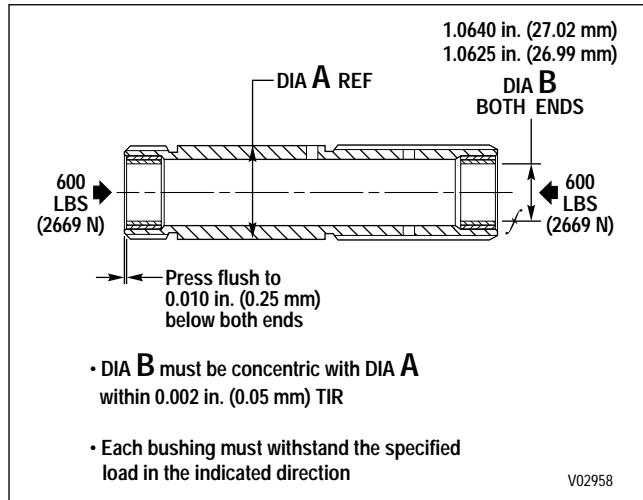

Figure 6-53. Sun Gear Shaft and Bushings
(3) If bushings 2 were removed from sun gear shaft 3, install new bushings, following the specifications in Figure 6-53. Bushing installer tool J 23614-A (for models without lockup) or J 39737 (for models with lockup) can be used (Figure 6-54).